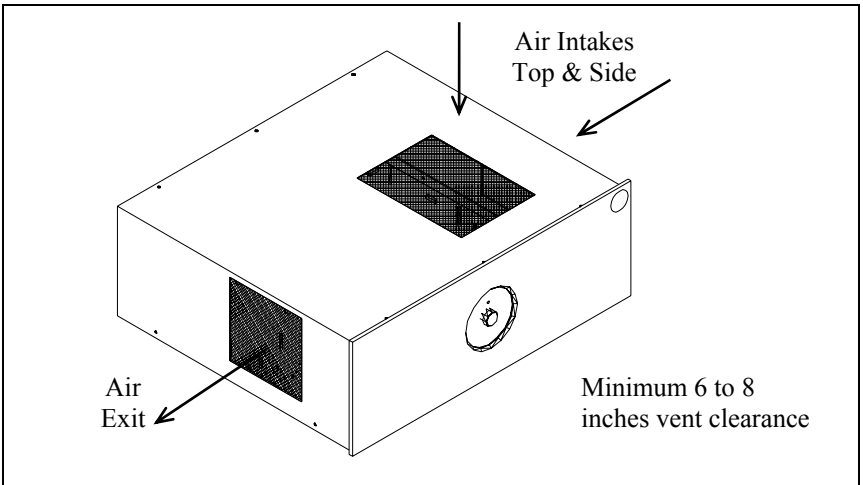

Figure 7
- 11) Amplifier Location - The Rogue 88 amplifier is an enclosed tube design with forced air ventilation and cooling. This cooling has been designed and tested to ensure long term reliability and safety of the unit. The amplifier should be placed in such a way that this airflow is not impeded. See Figure 7.